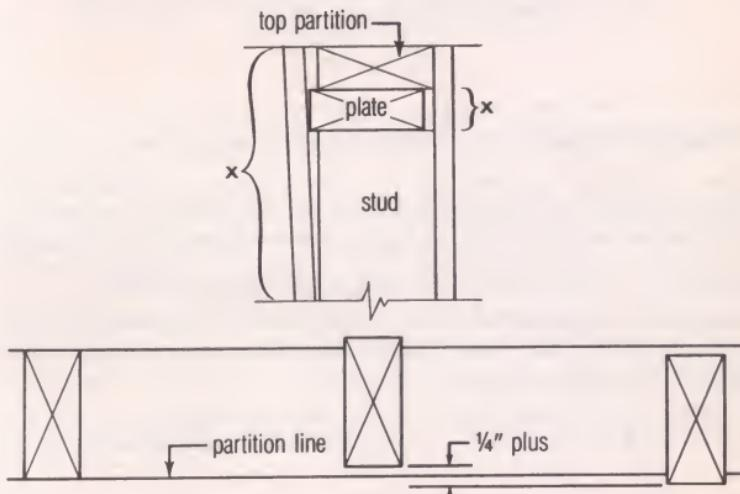

Fig. 2
**Cause:** Due to misaligned top plate and stud, hammering at points "X" (Fig. 2) as panels are applied on both sides of partition will probably result in nailheads puncturing paper or cracking board. Framing members more than  $\frac{1}{4}$ " out of alignment with adjacent members make it difficult to bring panels into firm contact with all nailing surfaces.